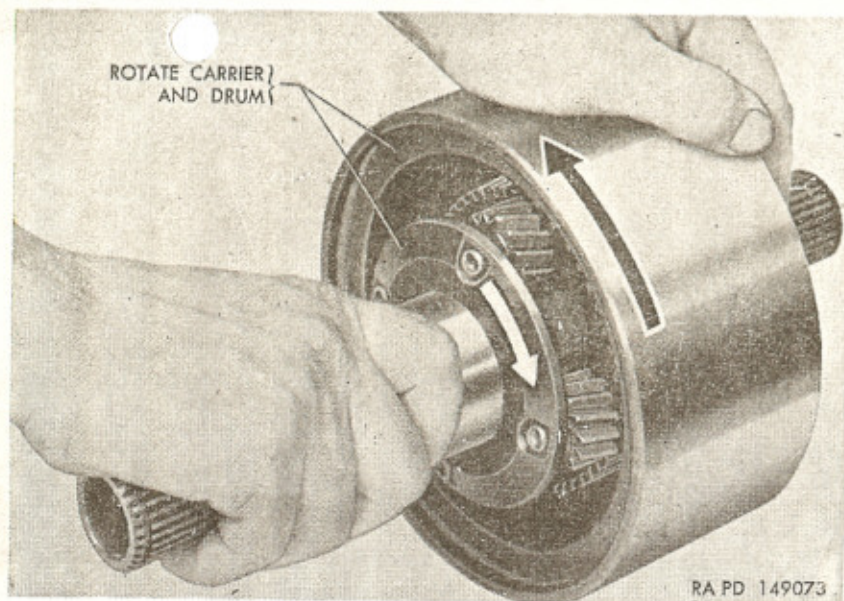

Figure 125. Installing planet carrier assembly in front planetary unit.
b. Install planet carrier assembly in front planetary unit. Rotate drum and carrier (fig. 125) in opposite directions while working carrier into place. Position planet carrier assembly with drum into holding fixture—B7079295. Refer to figure 102 for use of holding fixture.
c. Install planetary hub bronze thrust washer; then install clutch drum steel thrust washer (fig. 125) over planet carrier